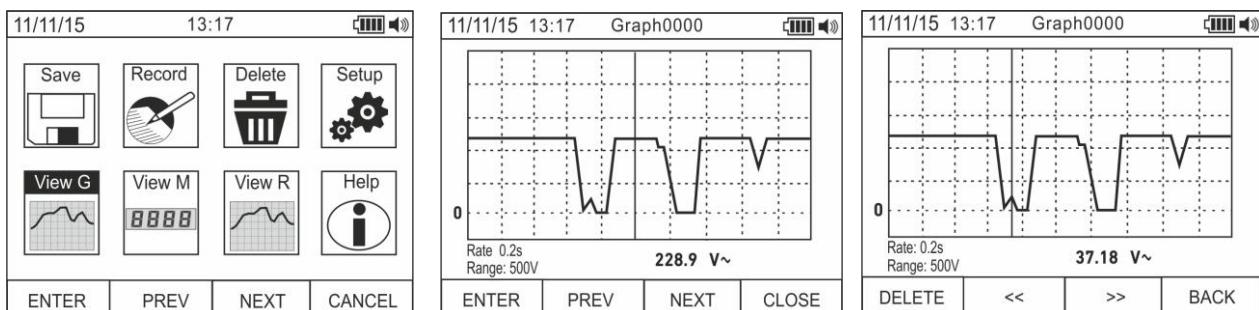

Fig. 18: Recalling graphs to the display
27. Use the **F2** or **F3** key to select symbol “View G” and press the **F1** key (see Fig. 18 – left side).
28. Use the **F2 (PREV)** or **F3 (NEXT)** keys to select the desired graph among the ones saved in the instrument's memory and press key **F1 (ENTER)** to open the graph (see Fig. 18 – central part).
29. Use the **F2 (<<)** or **F3 (>>)** keys to move the cursor within the graph in the two directions, observing the corresponding value at the bottom of the display (see Fig. 18 – right side).